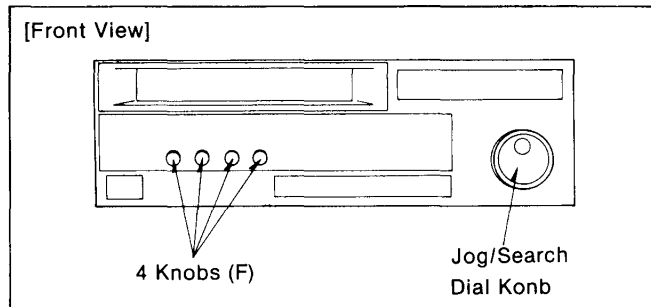

Figure D7
1. Pull out the 4 knobs (F) on the Front Panel (Figure D7).
2. Pull out the Jog/Search Dial Knob on the Front Panel (Figure D7).